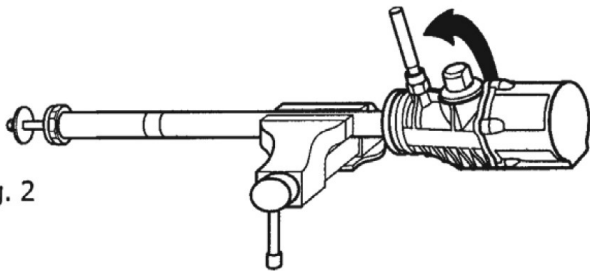

Fig. 2
3. UNSCREW THE AIR MOTOR BODY FROM THE SUCTION TUBE USING A THREADED ROD (FIG. 2), AND PULL IT OUT UNTIL IT STOPS. THE UNION NUT SHOULD BE VISIBLE.